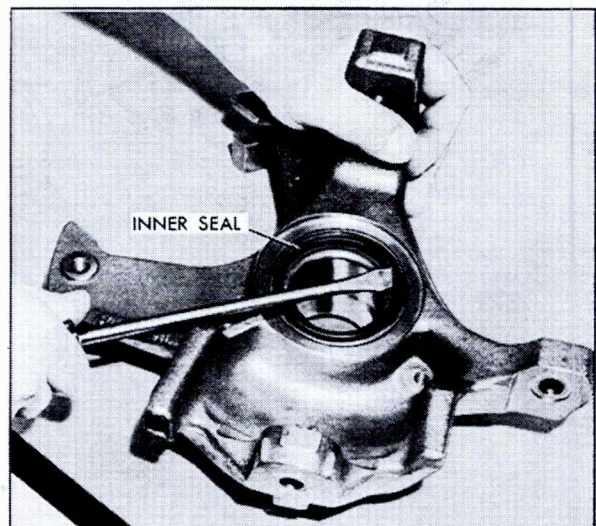

Fig. 3-36 Removing Steering Knuckle Inner Seal
2. Remove steering knuckle inner seal, Fig. 3-36, and discard seal.
19. To remove steering knuckle inner seal, use a screwdriver, Fig. 3-36.